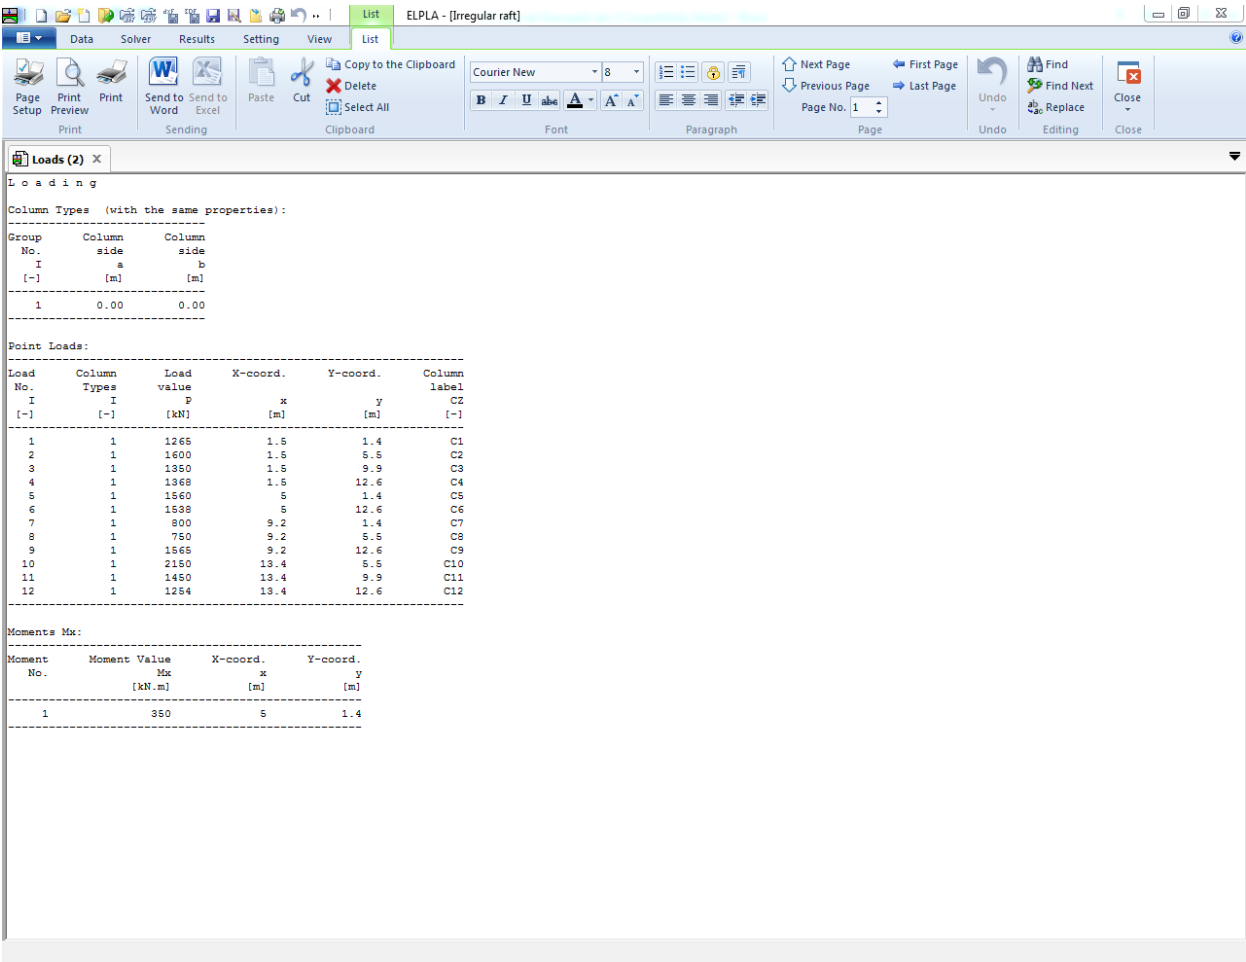

Figure 1.43 List of loading data
- Click "OK" button. The loading data are now listed (Figure 1.43)